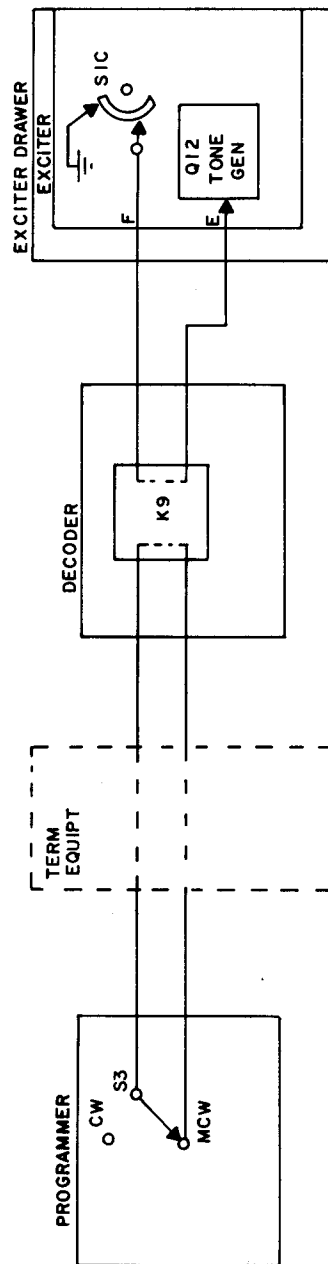

Figure 3-2. Mode Selection
b. MODE SELECTION (Refer to Figure 3-2). - To enable MCW operation switch S3 on the Programmer is turned to the MCW position closing the teletype loop between relay K9 in the decoder and switch S3. Relay K9 is then energized. This extends the ground on switch S1C through pin F of J1 in the exciter to the closed contacts of relay K9. The ground is then routed back to the exciter through pin E of J1 to activate the tone generator producing the modulating tone for MCW operation when keying is applied.